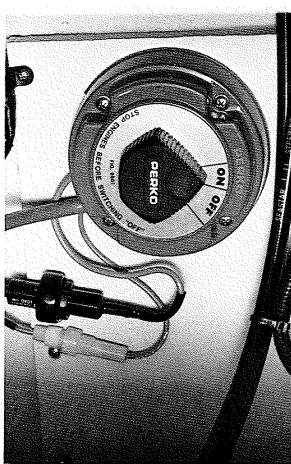

Figure 16
3. Put the battery/main switch in the "On" position. See figure 16.